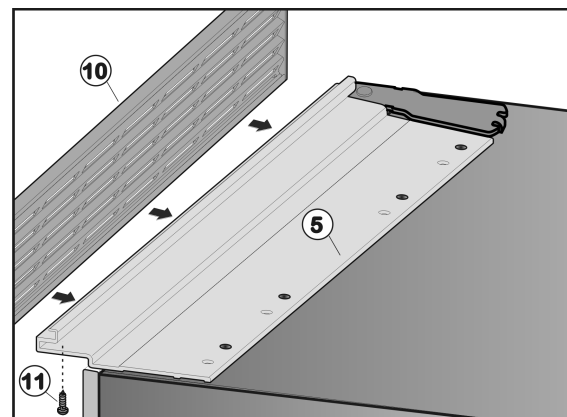

Fig. 33
- Position ventilation grille *Fig. 33 (10)* over the installation contour *Fig. 33 (5)* and align it such that the holes in ventilation grille and installation contour are above each other.
- Screw ventilation grille *Fig. 33 (10)* to installation contour *Fig. 33 (5)* from below using three screws *Fig. 33 (11)*.